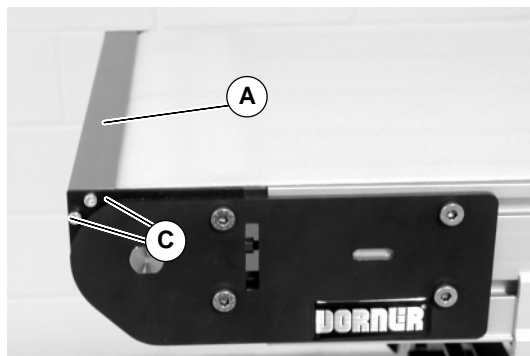

Figure 31
Periodically, remove two (2) set screws (C of Figure 31) on both sides of the conveyor and remove transfer plate (A). Clean any debris from between plate and conveyor belt. Replace transfer plate (A).